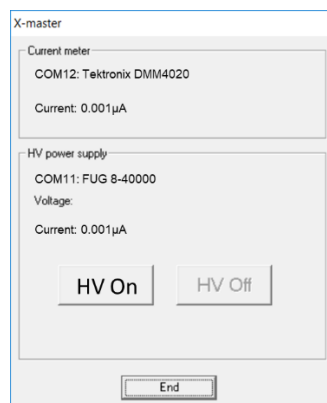

Figure 18: XMaster control software
3. Launch the XMaster control software (Figure 18). The COM ports will have been set up during installation, so when ready to use select 'HV On'. The system will ramp up with a warning message displayed on the window, and the source on beacon will light up.